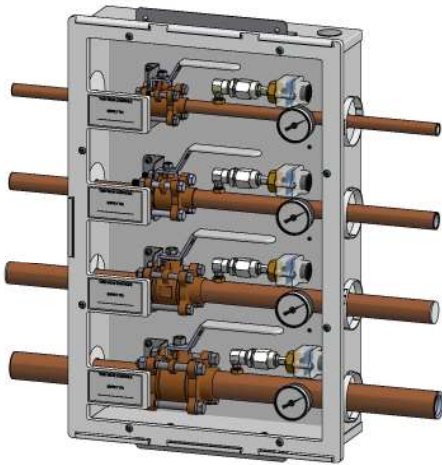

Figure 19: Zone Valve Box Location
1. Remote sensors can be installed in a compatible BeaconMedæx Zone Valve Box. (NOTE: copper adapter tube not needed for Zone Valve box installation (Figure 19).